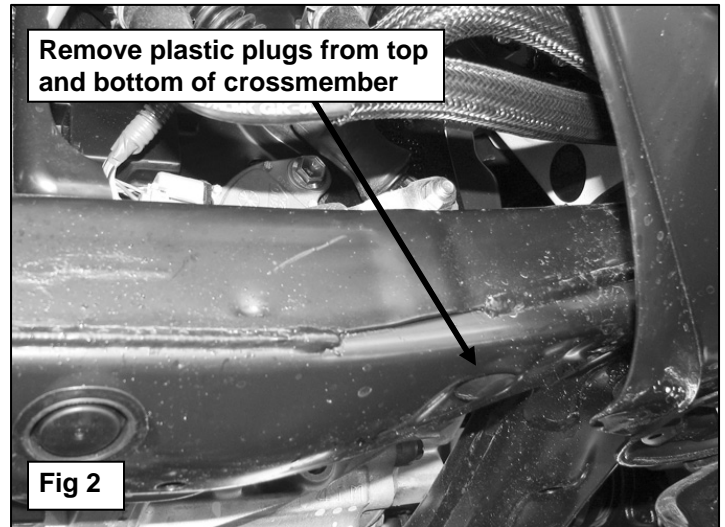

Fig 2
4. Remove the plastic plugs covering the holes through the crossmember on the driver and passenger side, (Figure 2). Select the appropriate installation: